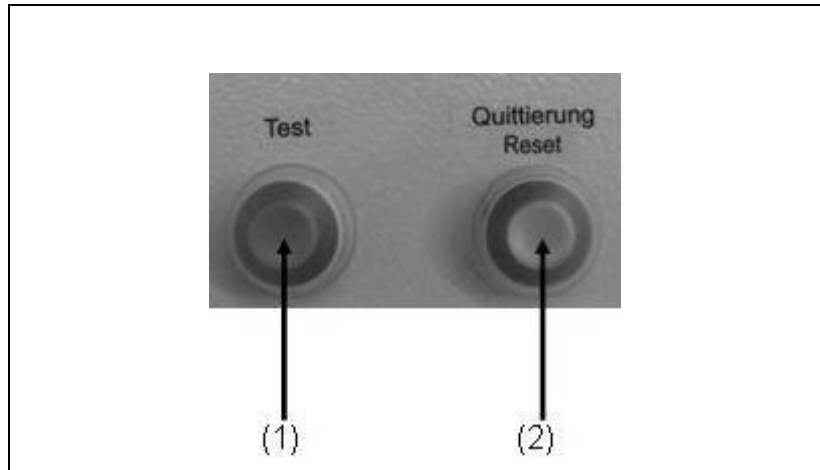

Fig. 5-2: Insulation monitoring using E-MCS 4.0
2. Press the test button (see Fig. 5-2-(2))
3. The reset button (see Fig. 5-2-(1)) must be pressed after the test, so that the unit can be operated again.
2. The reset button (see Fig. 5-2-(1)) must be pressed after switching off and disconnecting the device so that the unit can be operated again.